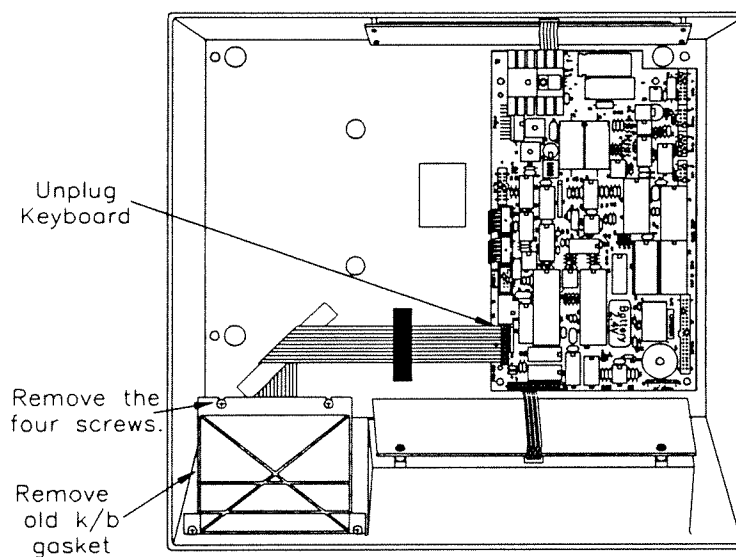

Figure 8.9 Removing Old Keyboard
8.6.3 Remove the four screws securing the keyboard to the top cover, as shown in Figure 8.9.